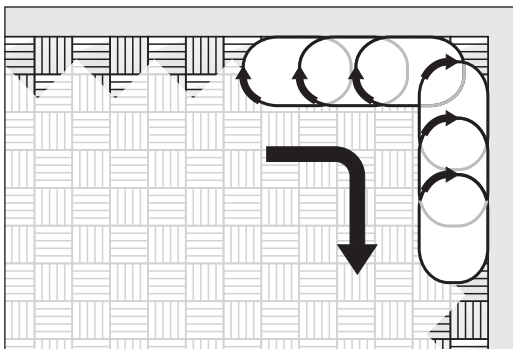

Fig. 12 FLIP® with **short** or **long** attachment:
- The FLIP® with **short** or **long attachment** is handled with rotary **clockwise** movements (fig. 12) during the sanding process!